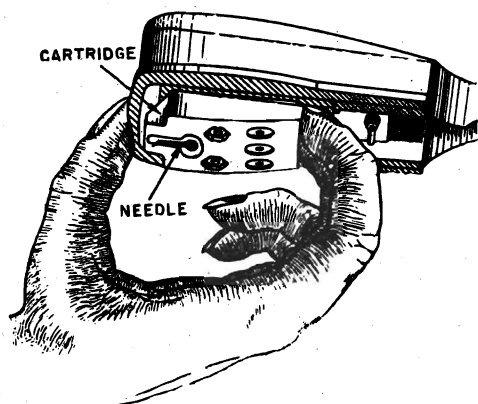

Figure 2: Removing Cartridge by Pulling Down on Back Edge
Remove the old cartridge (3) by getting your finger nails or a small screwdriver under it as shown in Figure 2 and pull down on the **back edge**. Press new cartridge into place again, making sure to push near its back edge where its pins go into the socket.